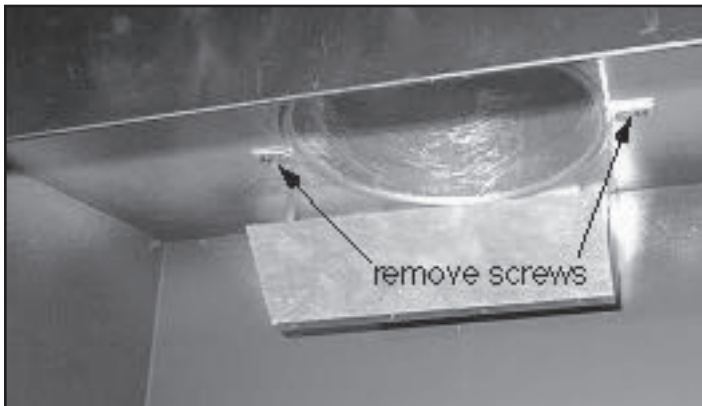

Figure 1 Remove Draft Hood
- Remove the draft hood attached to the firebox top by removing the screws securing it in place. See Figure 1.